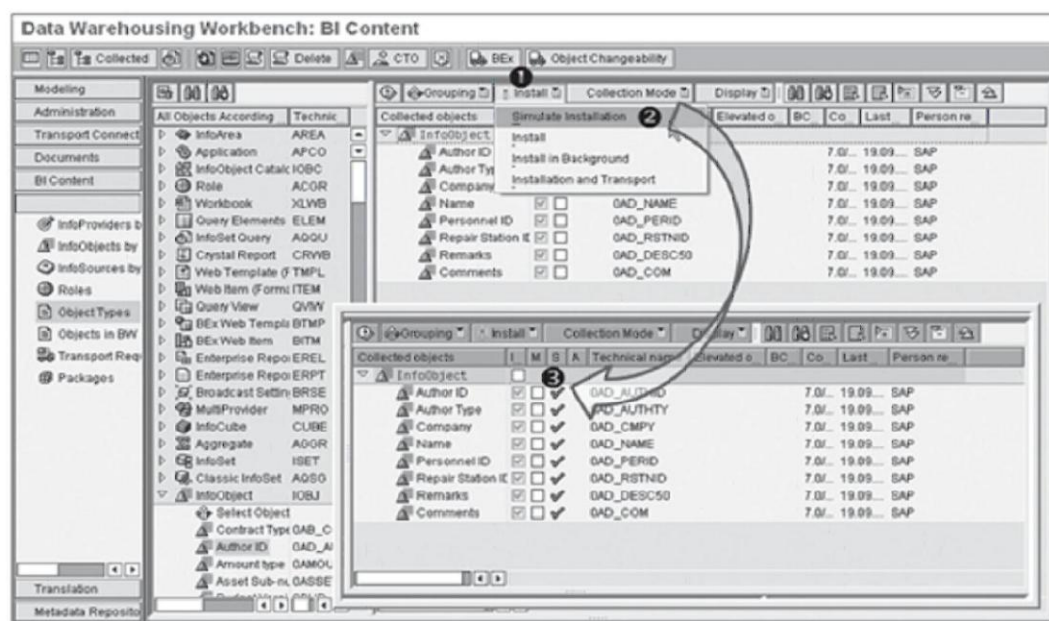

Figure 2.30 Simulating Activation
Now select the Install dropdown menu, as shown in ❶ of Figure 2.30. Click on Simulate Installation (❷). Selecting this option simulates the installation of the selected objects and shows the simulation result (❸). The OK icon (✔) shows that the simulation result is positive and that there won't be any errors when actually activating the selected objects in the system.